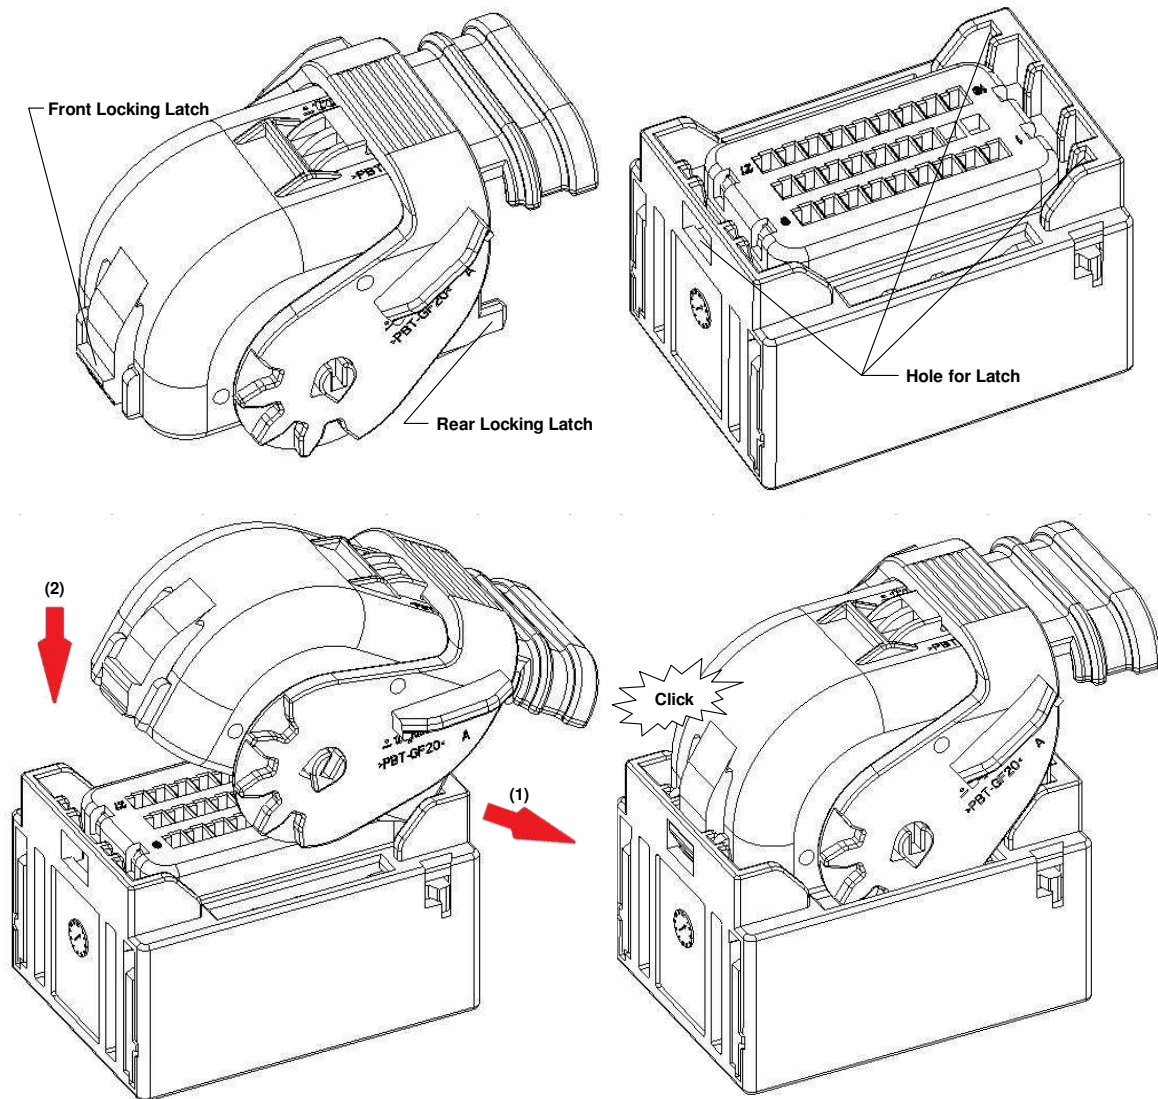

Fig. 13
(1) Insert Rear locking latch to the hole(1) on Plug Assembly (See Fig.13)
(2) Insert front locking latch to the hole(2) on Plug Assembly (See Fig.13)